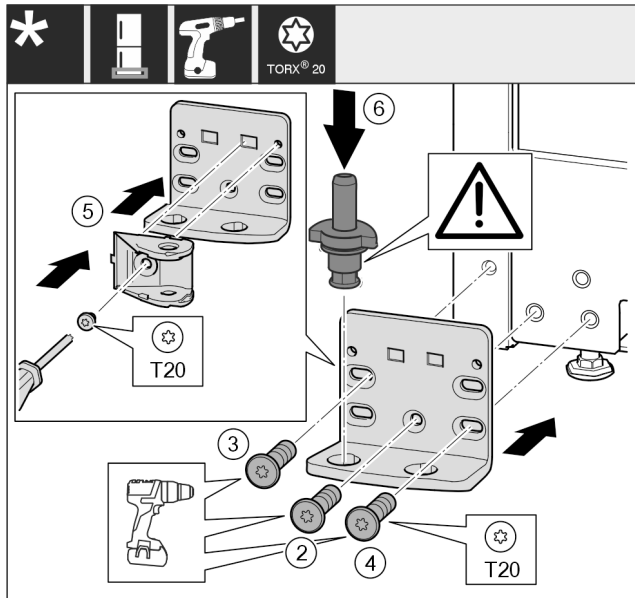

Fig. 19
- Place the bearing bracket on the other side and screw it in using the T20 screwdriver. Start with screw 2 at the bottom in the middle. Fig. 19 (2)
- Screw in screws 3 and 4. Fig. 19 (3,4)